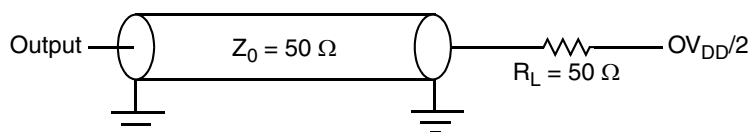

Figure 29. AC Test Load for the JTAG Interface
1. All outputs are measured from the midpoint voltage of the falling/rising edge of t_{TCLK} to the midpoint of the signal in question. The output timings are measured at the pins. All output timings assume a purely resistive 50-Ω load (see Figure 29). Time-of-flight delays must be added for trace lengths, vias, and connectors in the system.
2. The symbols used for timing specifications follow the pattern of $t_{\text{(first two letters of functional block)(signal)(state)(reference)(state)}}$ for inputs and $t_{\text{(first two letters of functional block)(reference)(state)(signal)(state)}}$ for outputs. For example, t_{JTDVVKH} symbolizes JTAG device timing (JT) with respect to the time data input signals (D) reaching the valid state (V) relative to the t_{JTG} clock reference (K) going to the high (H) state or setup time. Also, t_{JTDXKH} symbolizes JTAG timing (JT) with respect to the time data input signals (D) went invalid (X) relative to the t_{JTG} clock reference (K) going to the high (H) state. Note that, in general, the clock reference symbol representation is based on three letters representing the clock of a particular functional. For rise and fall times, the latter convention is used with the appropriate letter: R (rise) or F (fall).
Figure 29 provides the AC test load for TDO and the boundary-scan outputs.